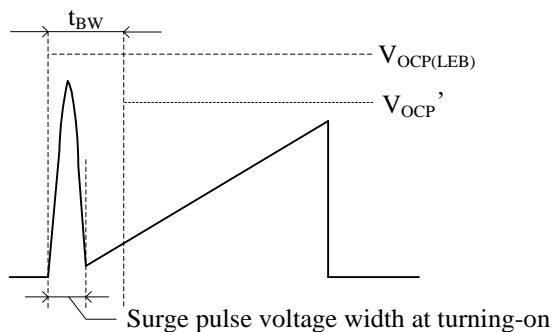
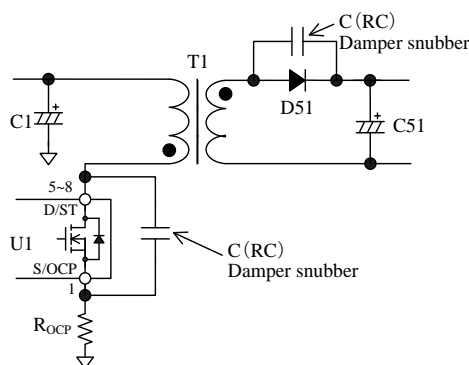

Figure 10-12. S/OCP Pin Voltage
Figure 10-13. Damper Snubber
During Leading Edge Blanking Time, the OCP threshold voltage becomes  $V_{OCP(LEB)} = 1.69\text{ V}$  which is higher than the normal OCP threshold voltage as shown in Figure 10-12. Changing to this threshold voltage prevents the IC from responding to the surge voltage in turning-on the power MOSFET. This function operates as protection at the condition such as output windings shorted or unusual withstand voltage of secondary-side rectifier diodes.
When the power MOSFET turns on, the surge voltage width of the S/OCP pin should be less than  $t_{BW}$ , as shown in Figure 10-12. In order to prevent surge voltage, pay extra attention to  $R_{OCP}$  trace layout (see Section 11.2). In addition, if a C (RC) damper snubber of Figure 10-13 is used, reduce the capacitor value of damper snubber.